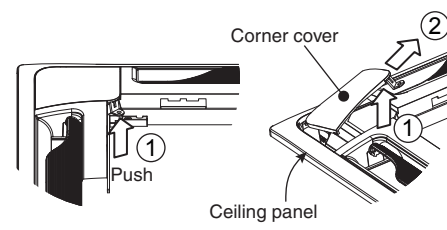

Fig. 3-43
Then, remove the air-intake grille in the direction of the arrow ②. (Fig. 3-43)